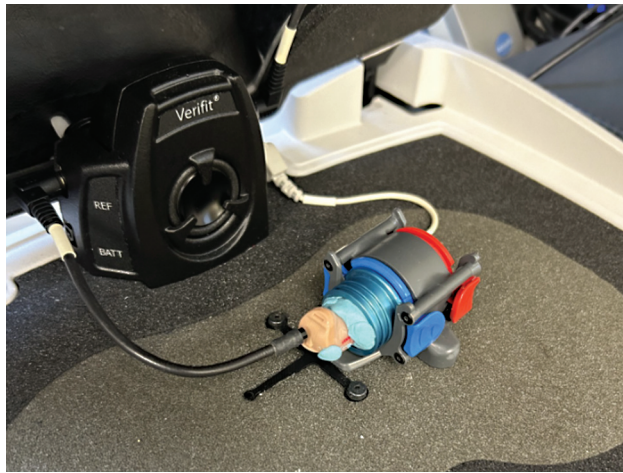

Figure 9 Connecting an in-the-ear hearing aid to the correct coupler using putty.
5. Place the reference microphone near the hearing aid microphone (within approximately 2 mm) (Figure 9).